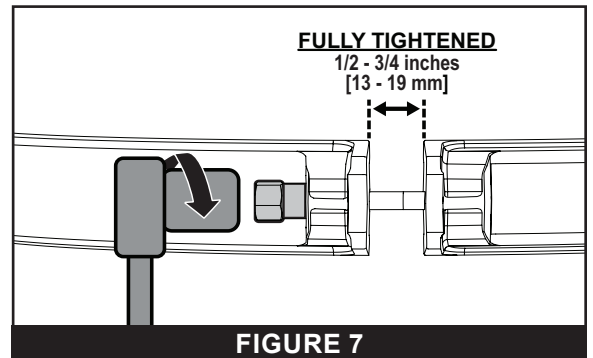

FIGURE 7
6. Use a *3/4-inch Socket and Wrench* (3) to tighten the *Clamp Nut* (4) between 16 and 18 ft-lbs. [22-24 Nm]. Refer to **FIGURE 7**.
7. Verify the gap between the ends of the clamp is between 1/2-inch and 3/4-inch [13-19 mm]. Refer to **FIGURE 7**.